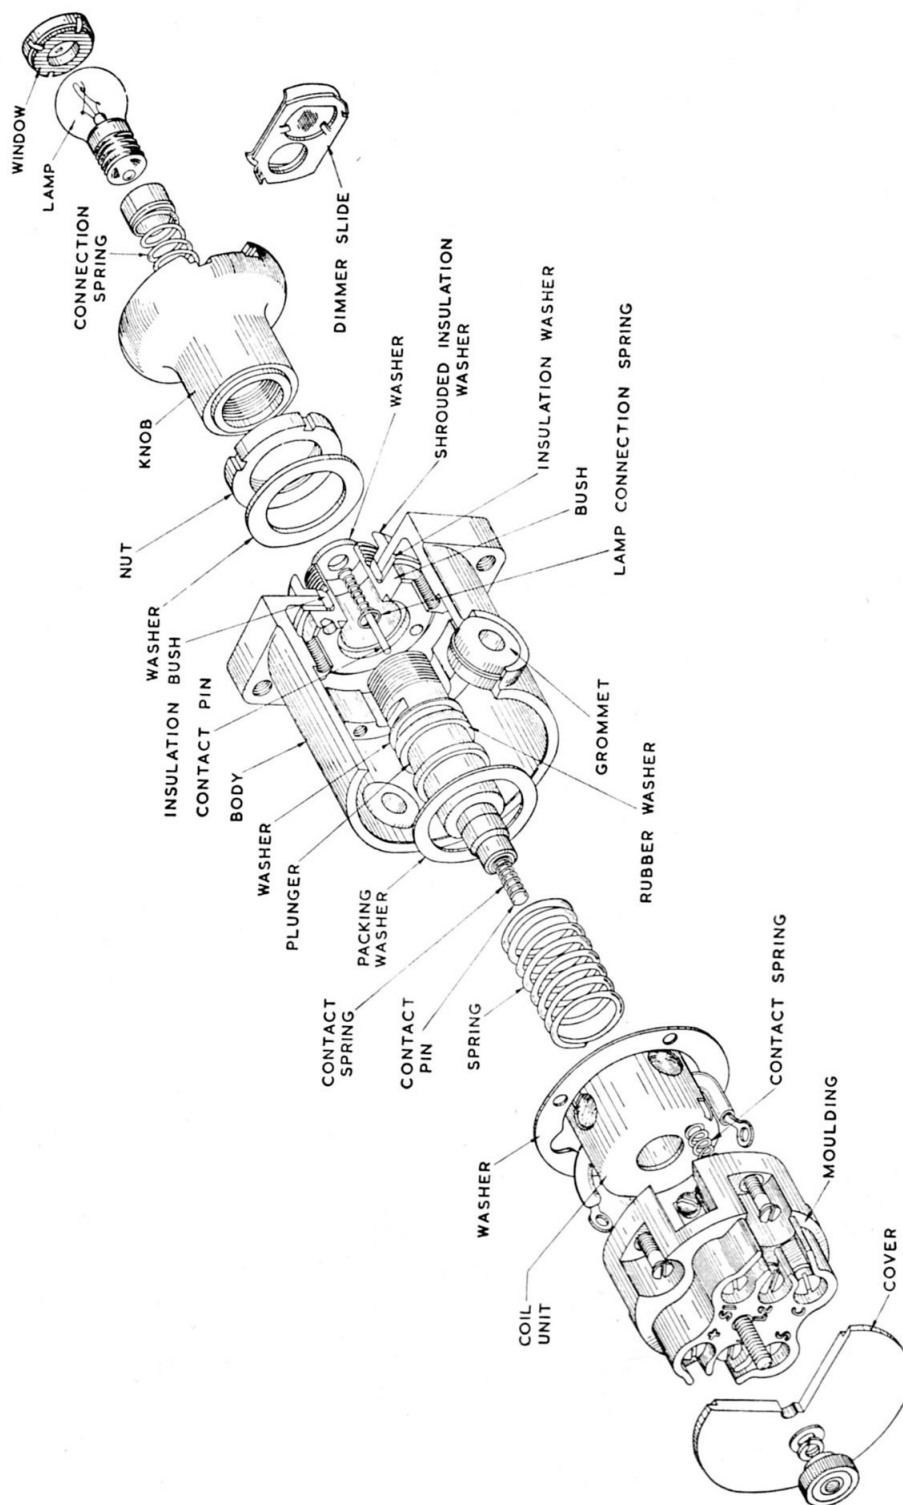

Fig. 2. Exploded view of switch, Type XJD/4
4. The plunger knob (fig. 2 and 3) screws on to the plunger, and houses the warning lamp, which slips into the lampholder and makes contact with a rod running through the centre of the plunger to the contact spring. The lamp is covered by an amber dimmer screen, and both are held in position by a blanking screen.
grommets are in good condition. If the switch has been completely stripped, consult fig. 2 for the correct order of assembly. Ensure that no acid or grease contaminates the rubber washers and grommets.
12. The terminal moulding and solenoid should be assembled together, taking care that the contact spring is correctly located in its hole and is making contact with the underside of the solenoid cup. The slot in the cup must engage with the key in the moulding. Connect the solenoid leads to the underside of the terminals marked S and C, as indicated in fig. 2.